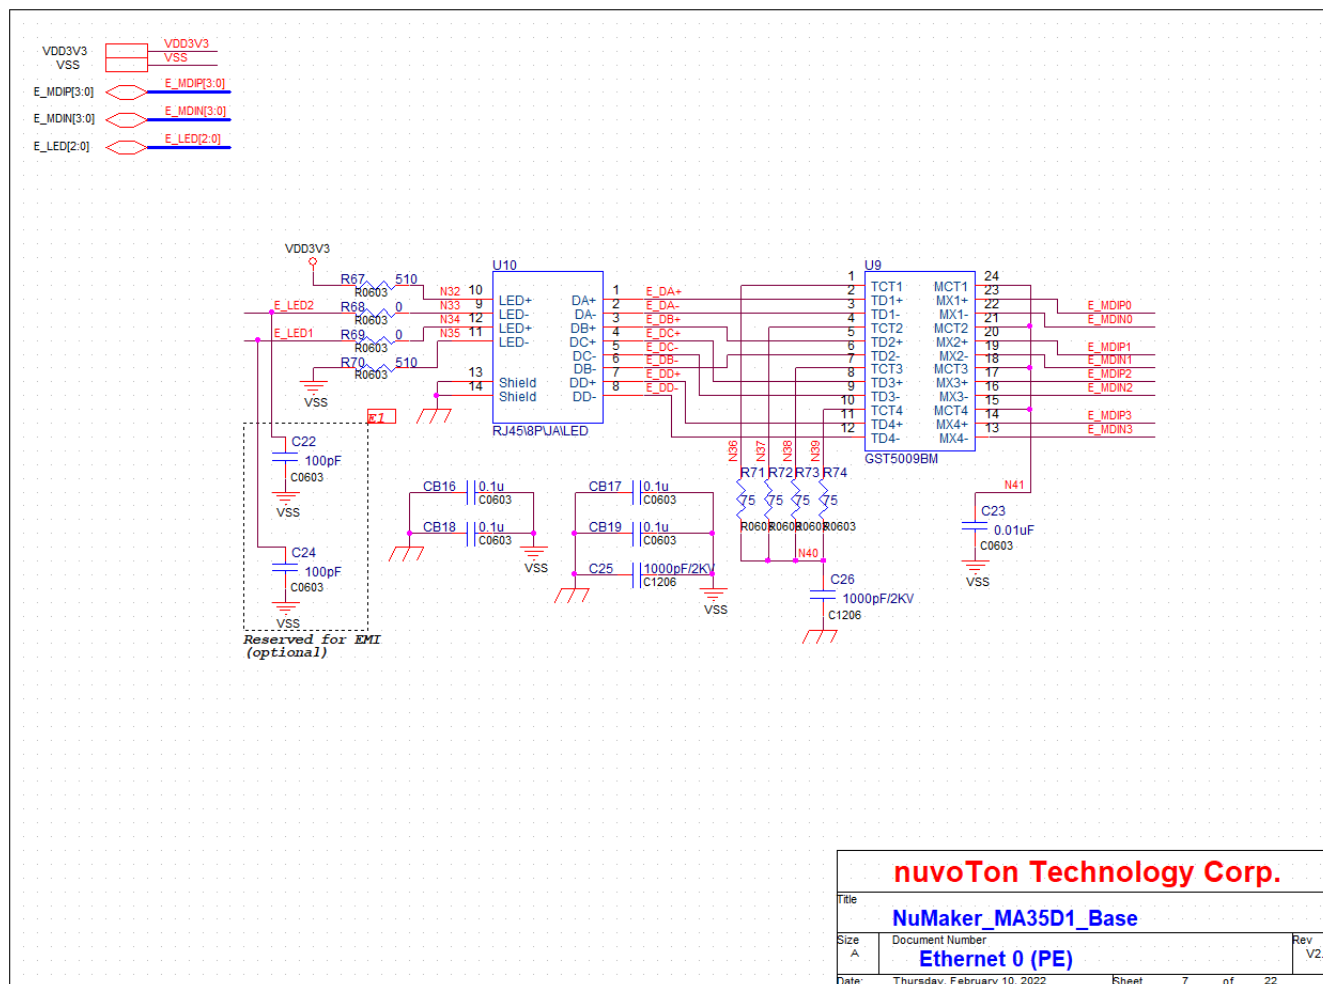

Figure 23-16 Ethernet 0 (PE) Circuit
23.16 Ethernet 0 (PE)
Figure 23-16 shows the Ethernet 0 (PE) circuit.